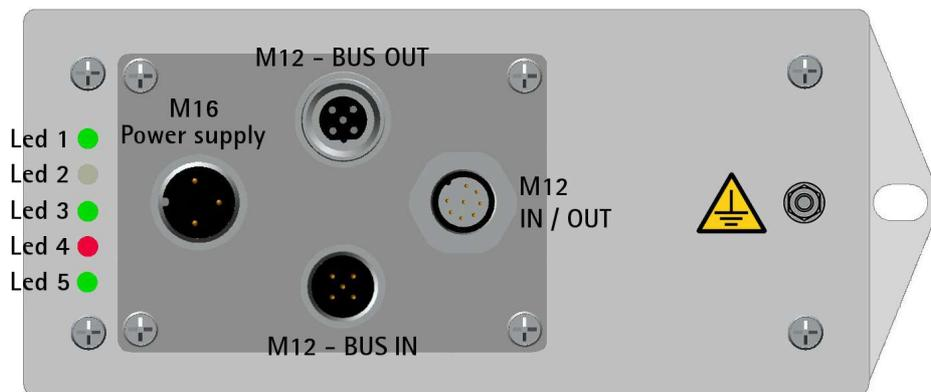

Figure 3: Electrical connections and diagnostic LEDs
4.1 Ground connection (Figure 3)
4.2 Connectors (Figure 3)
4.3 Diagnostic LEDs (Figure 3)
Five LEDs located next to the M16 power supply connector (see Figure 3) are meant to show visually the operating or fault status of the CANopen interface and the device as well. The meaning of each LED is explained in the following table: